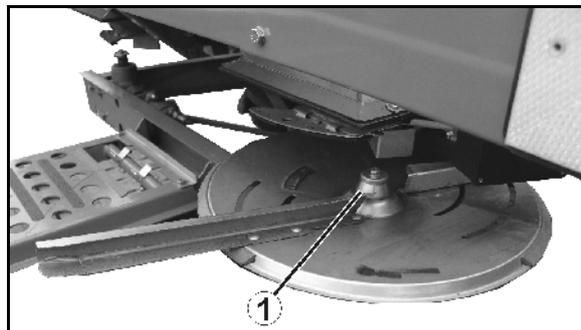

Fig. 59
1. Remove thumb screw (Fig. 59/1).
2. Rotate the spreading disc so that the 8 mm dia. disc hole (Fig. 59) is aligned with the centre of the machine.